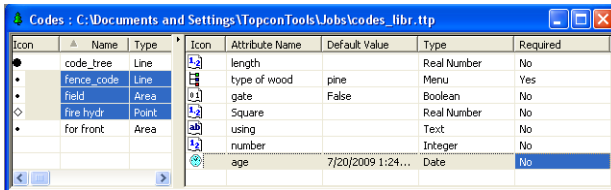

Figure 5-73. Codes View
3. Click **Apply** to set data without closing; click **OK** to set data and close the dialog box. The right panel of the *Codes* view displays the list of the created attributes for the code selected in the left panel (Figure 5-73).